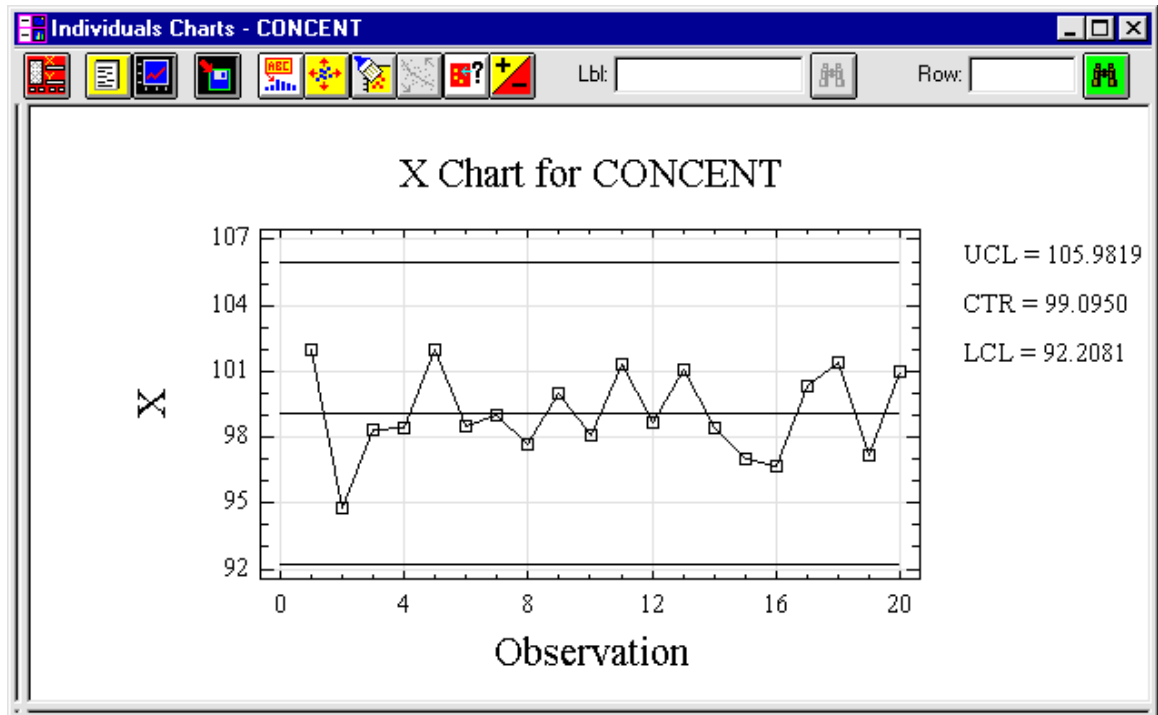

Figure 2-2. X Chart
4. Minimize the MR(2) Chart, then maximize the X Chart in the first graphics pane (see Figure 2-2).